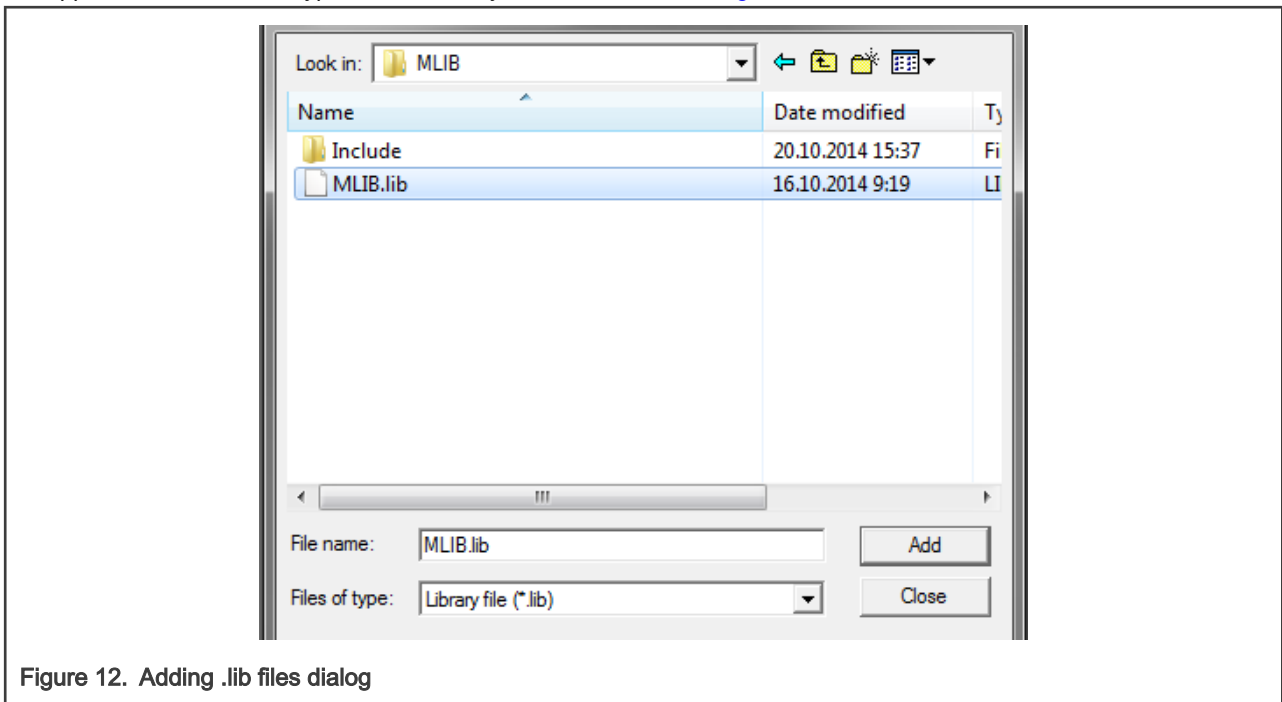

Figure 12. Adding .lib files dialog
- Navigate to the parent folder `C:\NXP\RTCESL\CM4_RTCESL_4.6_KEIL\MLIB`, and select the `mlib.lib` file. If the file does not appear, set the Files of type filter to Library file. Click Add. See Figure 12.